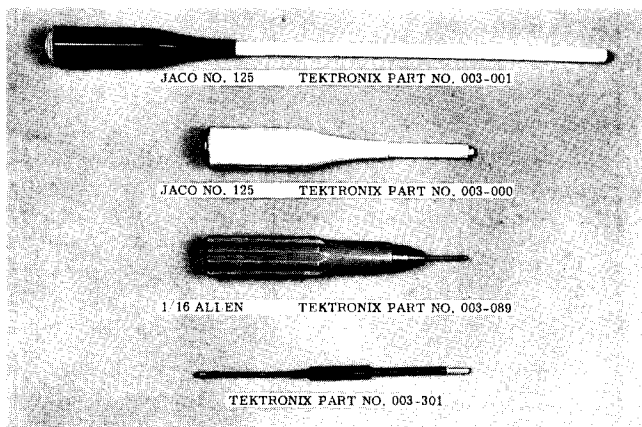

Fig. 5-1. Suggested alignment tools for recalibrating the Type R Plug-In Unit.
15. Miscellaneous alignment tools. (See Figure 5-1).